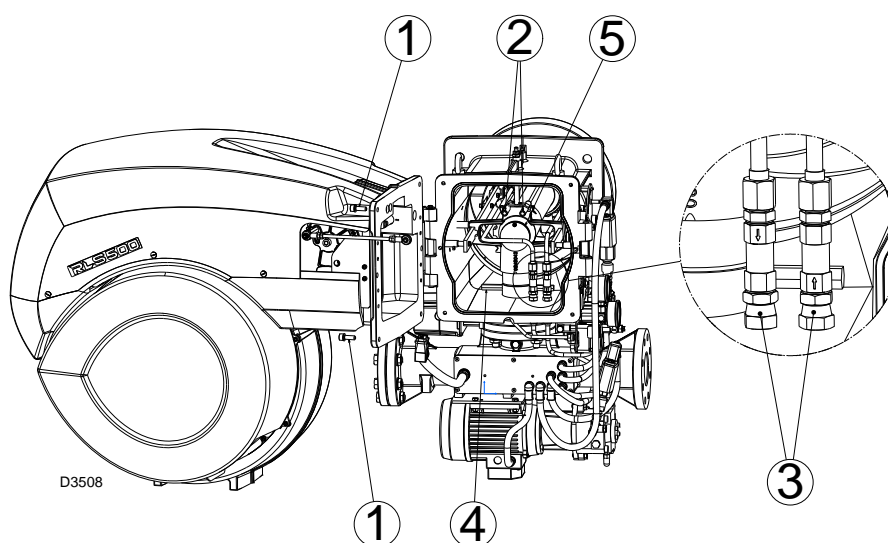

Fig. 13
- Open burner at hinge (Fig. 13) after removing the 4 screws 1).